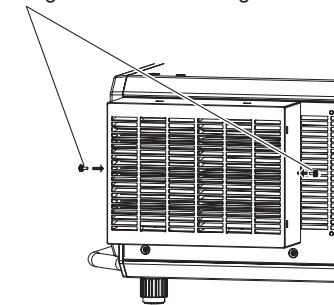

Fig. 2
2) Secure the long life filter cover. (Fig. 2)